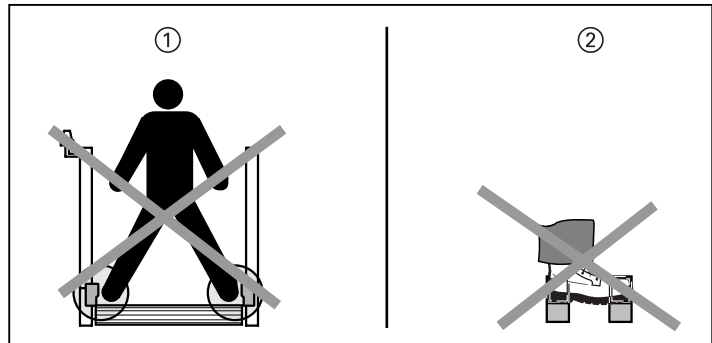

Fig. 2-1: Arrangement of muting sensors
1. Muting sensors must be arranged such that muting cannot be triggered unintentionally by personnel (see Fig. 2-1).